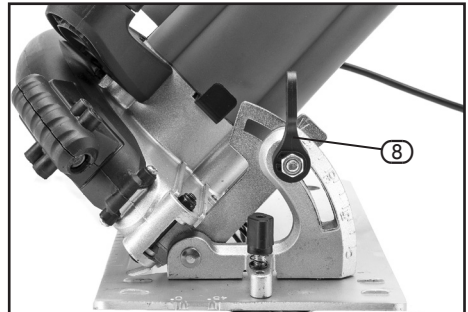

FIG.7
9.4 CUTTING ANGLE ADJUSTMENT – FIG.7